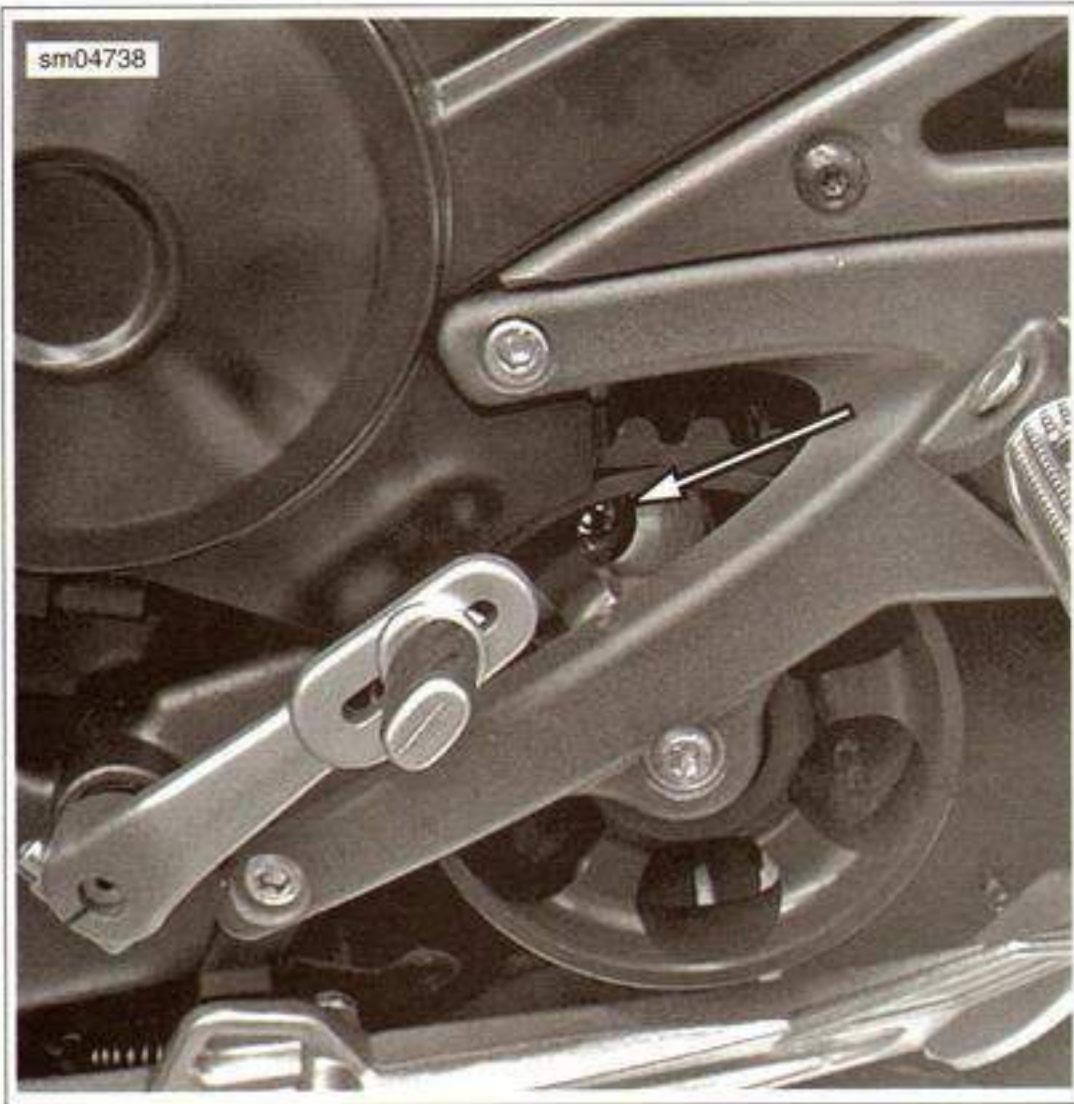

Figure 4-49. Muffler Bolt Through Idler Wheel Bracket
2. See Figure 4-49. Remove the rear muffler bolt through a hole in the idler wheel.